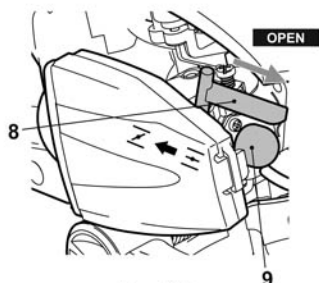

Fig. 10
- > Place by hand the choke lever [8] on «OPEN»  (Fig. 10).
- > Place the choke lever [8] on «OPEN»  (Fig. 10).